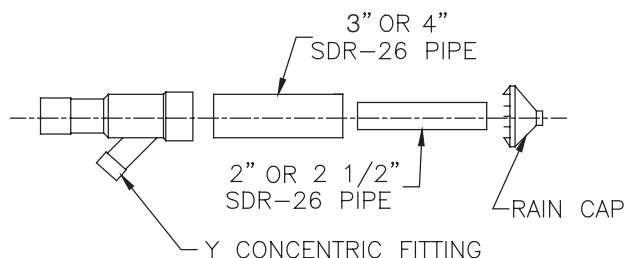

Figure 1: Kit Components
- a. Cement Y concentric fitting to larger diameter kit pipe (see Figure 1).
- b. Cement rain cap to smaller diameter kit pipe (see Figure 1).
- a. Cement the Y concentric fitting to larger diameter kit pipe (See Figure 1).
- b. Cement the rain cap to the smaller diameter kit pipe (See Figure 1).